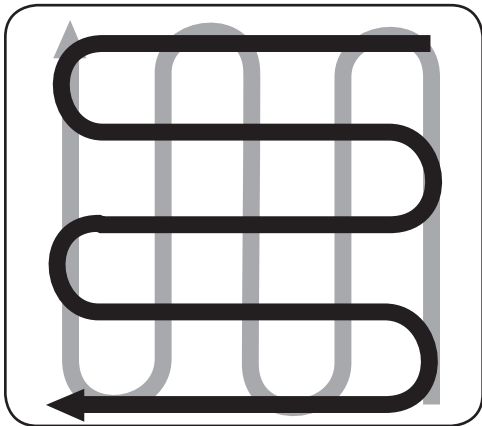

Figure 3-8
- When finished in one direction, make a second pass at a right angle, as shown in Figure 3-8. Overlap each pass for best results (in very hard ground, it may take three or four passes to thoroughly pulverize the soil.)